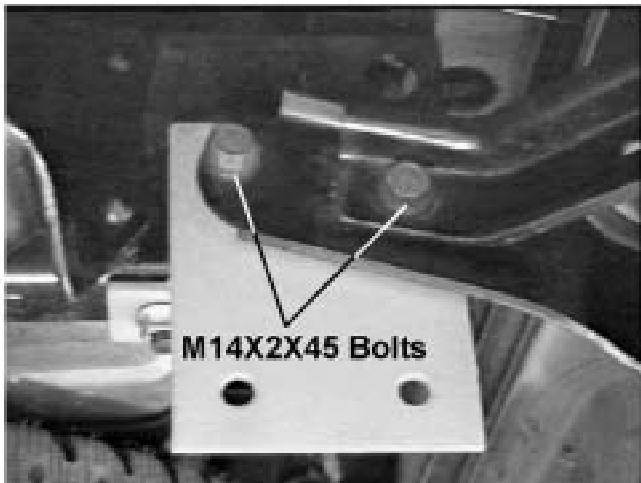

Figure 7
6. Install bumper with bumper brackets outside of rear subframe mounting brackets. Retain with two M14x2x45 grade 10.9 bolts per side. See Figure 7.